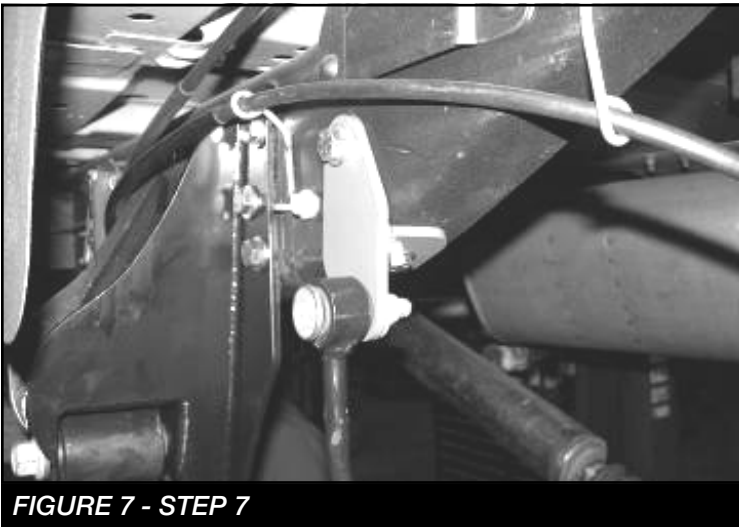

FIGURE 7 - STEP 7
7. Locate the FT30240BK (driver) and FT30241BK (pass) Rear Sway Bar Drop Brackets. Remove the factory sway bay endlinks from the frame and save the hardware. Place the drop bracket onto the frame so that the hole in the new bracket is directly above the factory hole (the longer end of the bracket goes upward and attaches to the frame). Use a paint pen or center punch to mark the center of the hole. Using a drill, drill the new hole into the frame starting with a smaller size bit and working up to the 1/2" size. Using a drill with a 3/8" bit, drill the bottom hole through the new bracket into the frame. Use the supplied 3/8" hardware and install the bolts through the bracket into the frame, torque to 30 ft. lbs. Install the end link into the bottom of the new drop bracket with the factory hardware and torque to 50 ft. lbs. **SEE FIGURE 7**